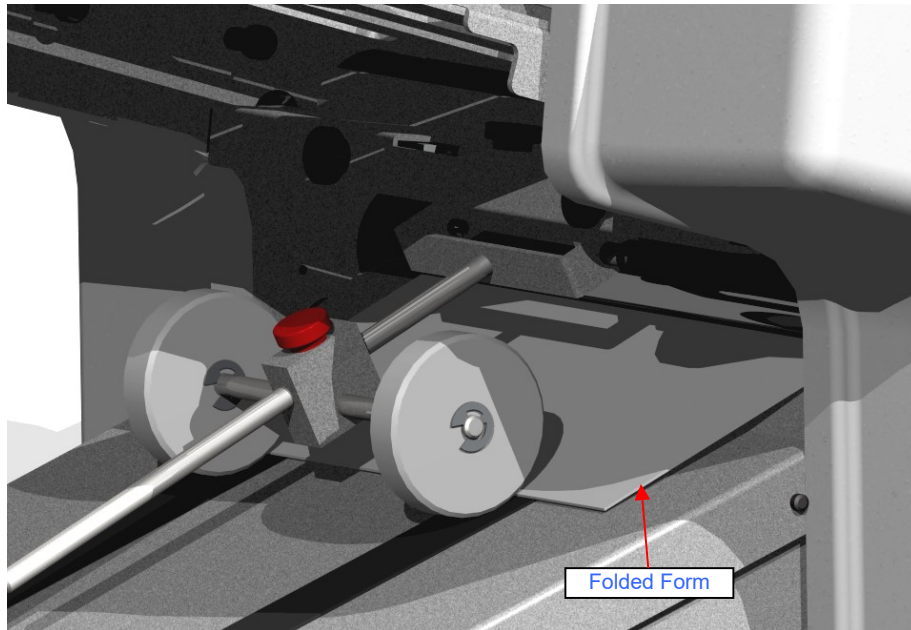

Figure 12: Nip Wheel Adjustment
3. Move the **Nip Wheels** so that they just touch the front edge of the form [see Figure 12].